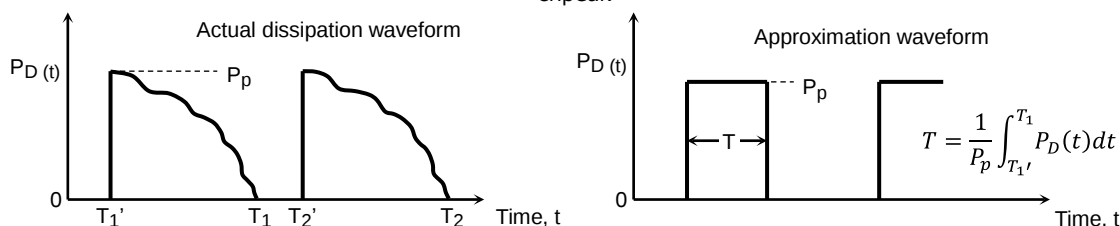

Figure 1.5 Approximation of a Power Loss Waveform
In such cases, approximate the power loss waveform as a rectangular wave as shown in Figure 1.5 and use Equation (8) to estimate T_{chpeak} .